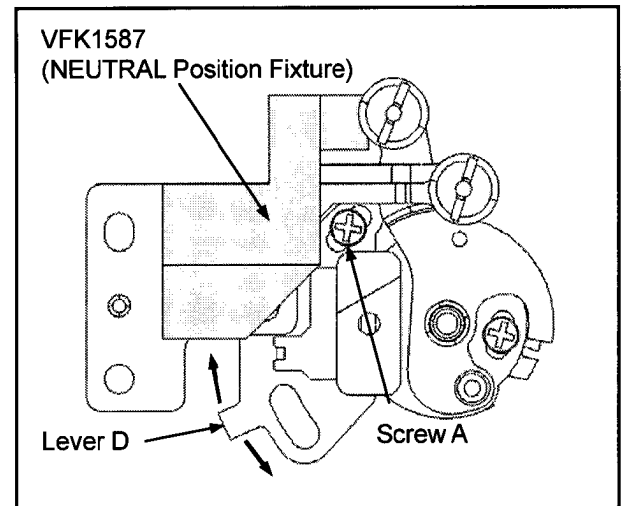

Figure 3-5-3
4. Set the VFK1587 (NEUTRAL Position Fixture) as shown in figure 3-5-3.